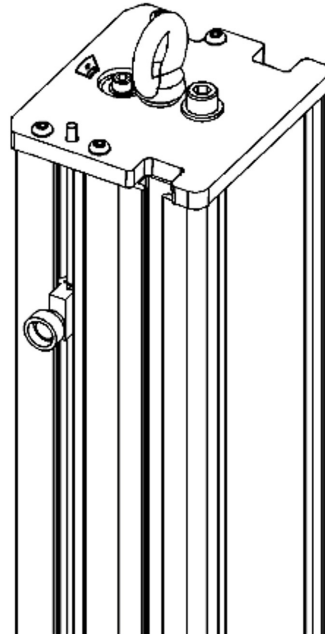

Figure 10. Eyebolt for lifting the frame
7. Insert the crane hook into the eyebolt on top of the frame column Figure 10 on page 60.
For some systems, the eyebolt is removed prior to shipping. If the eyebolt is missing from your machine, it will be packed in an envelope inside one of the unsealed boxes, usually in the box that contains the system documentation. Screw the eyebolt into the top of the frame column as shown in Figure 10 on page 60.